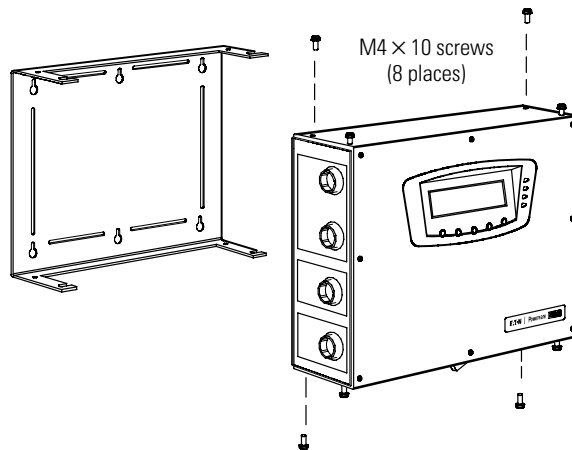

Figure 2. Mounting Bracket and Electronics Module (with Optional Display)
2. Loosen the four front screws, and remove the four rear screws. Remove the mounting bracket from the electronics module. Retain the bracket and four removed screws. See Figure 2.
5. Verify all screw holes are aligned. Reinstall the four screws removed in Step 2, but do not fully tighten. See Figure 2.